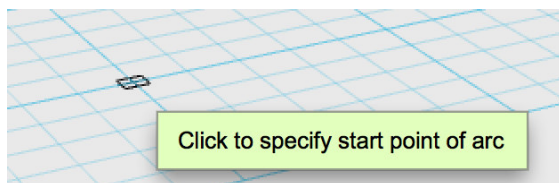

Figure 4-69 The start of the arc of three points
3. Click on the sketching area where you want your arc to begin (Figure 4-69).